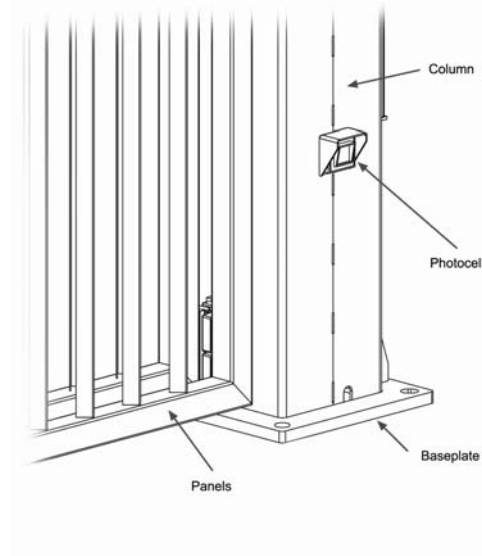

FIGURE 1.3
- Photocell – the Infrared Beam; the through-beam photocell (see figure 1.3) is used to detect physical objects in the gate travel path. If it is blocked during the opening or closing motion of the gates, the gates will stop and react in accordance with the U.L.325 regulations. The suggested height is 21” above grade and within 5” of the gate panels in the closed position.